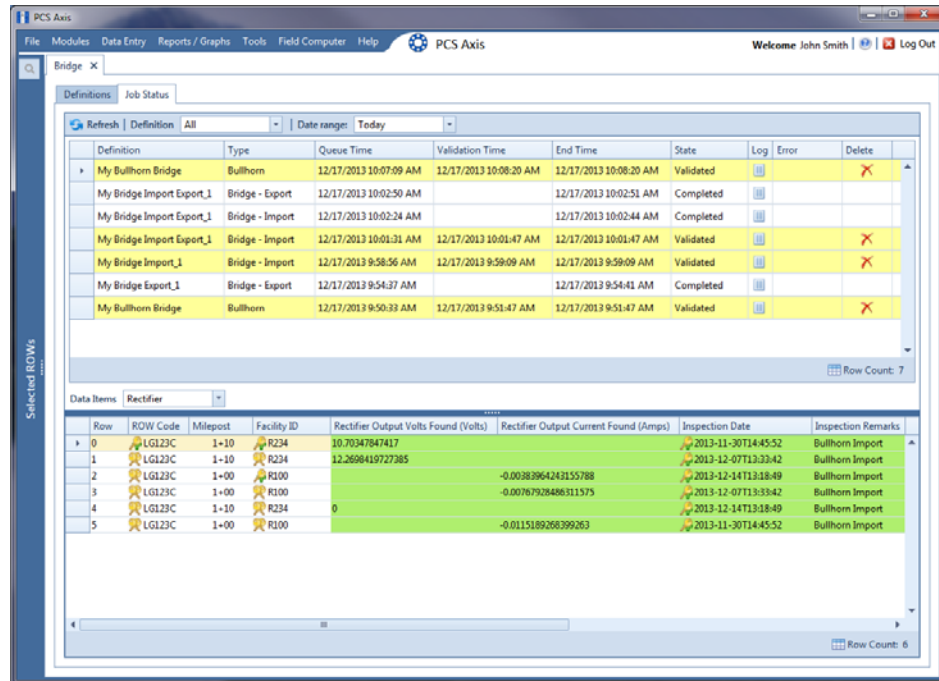

Figure 10-42. Job Status
- 26 To view the status of a Bridge session, click  **Job Status** in the *Definitions window* to open the *Job Status window* (Figure 10-42). Clicking  **Log** for a Bridge session opens the log file for the selected session.